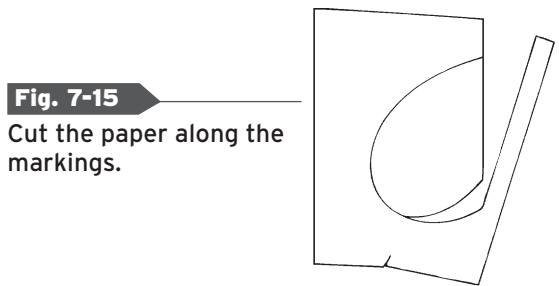

Fig. 7-15
2. Cut the paper along the stitching line markings. (Fig. 7-15)